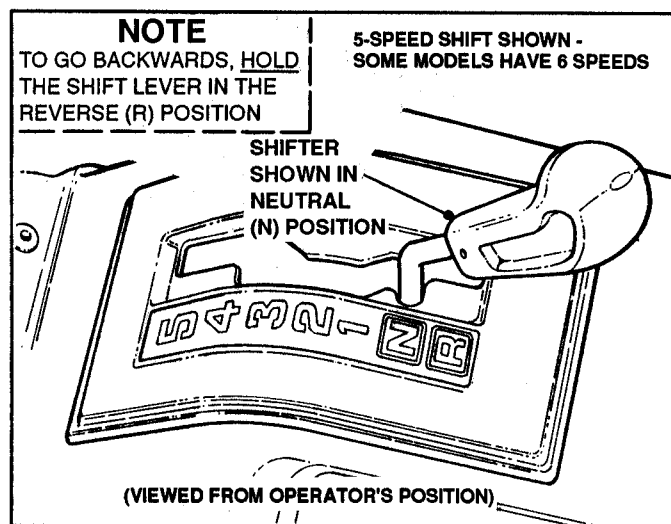

FIGURE 7
1. Push the **CLUTCH/BRAKE PEDAL** all way down and shift **SPEED SELECTOR** to 1 to go forward or to R for reverse. See Figure 7.